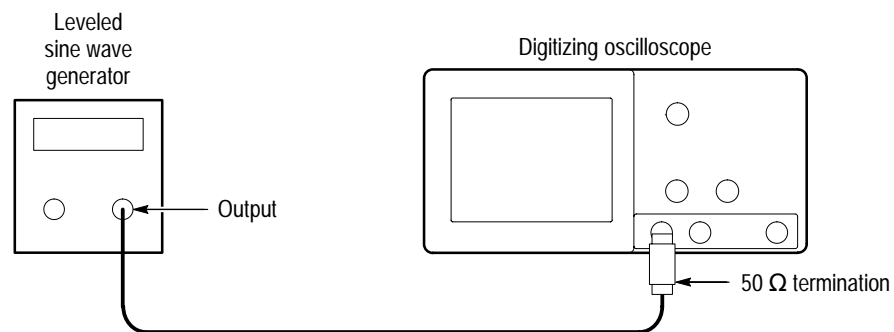

Figure 4–6: Hookup for analog bandwidth check
1. Connect, through a 50  $\Omega$  precision cable and a 50  $\Omega$  termination, the sine wave output of a leveled sine wave generator to **CH 1** (see Figure 4–6). Set the output of the generator to a reference frequency of 50 kHz.